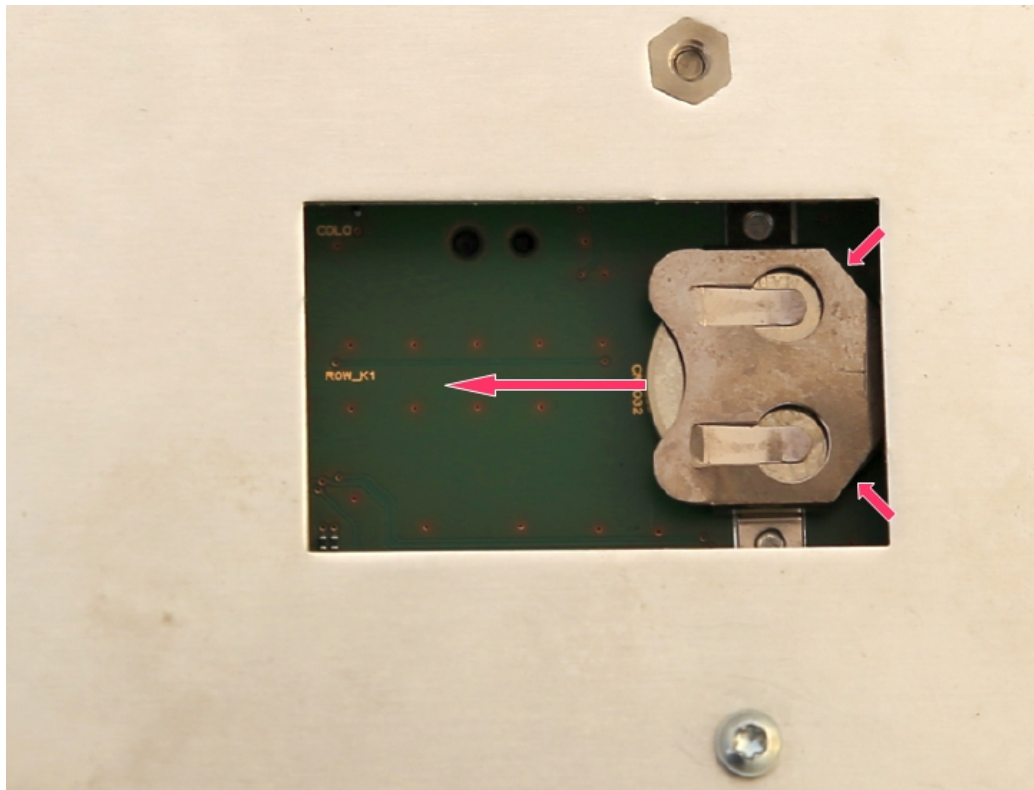

Figure 4-8: Battery replacement
2. Use an isolated tool in the right 45° corners of the battery holder and push the battery to the left. See Figure 4-8.